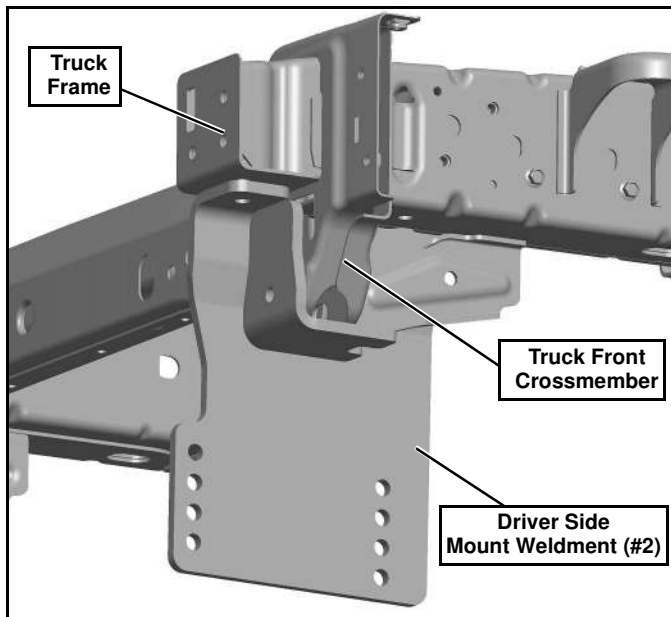

Figure 3
3. Hold the Driver Side Mount Weldment (#2) to the truck frame as shown in Figure 3. Clamp the rear end of the mount to the inside of the truck frame rail. Clamp the front end of the mount to the bottom side of the truck frame. Make sure the mount is also tight against the truck's front crossmember.